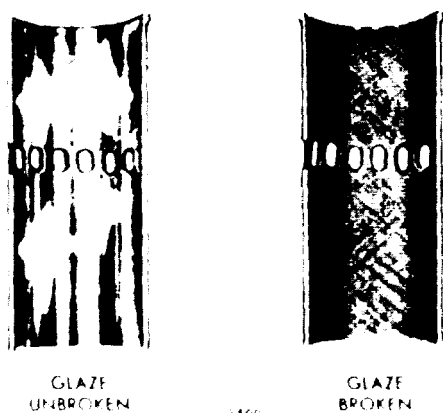

Figure 11B-132. Glaze Surface of Cylinder Liner
1. Break the glaze (Figure 11B-132) due to the rubbing action of the piston rings
2. Remove the ridge (Figure 11B-133 on page 11B-86) formed at the top by the piston ring travel. Otherwise, interference with the travel of the new compression rings may result in ring breakage.